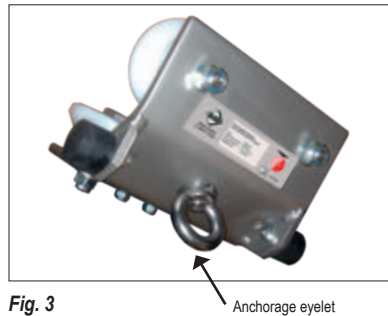

Fig. 3
1. The IKAR trolley clamp (Fig. 3) is supplied in a pre-assembled state and has been pre-adjusted to the size of the rail on the guide track.